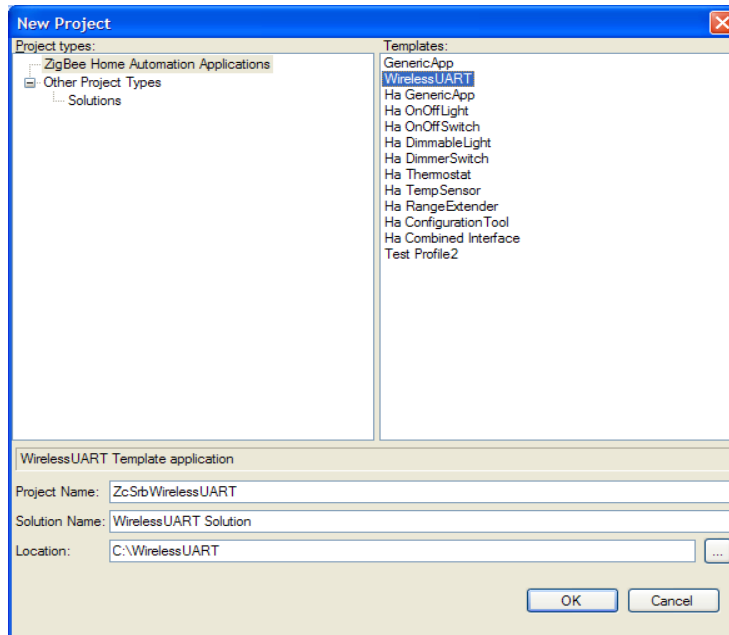

Figure 5-2. Project/Template Select
5. As shown in Figure 5-2, select the Wireless UART template.